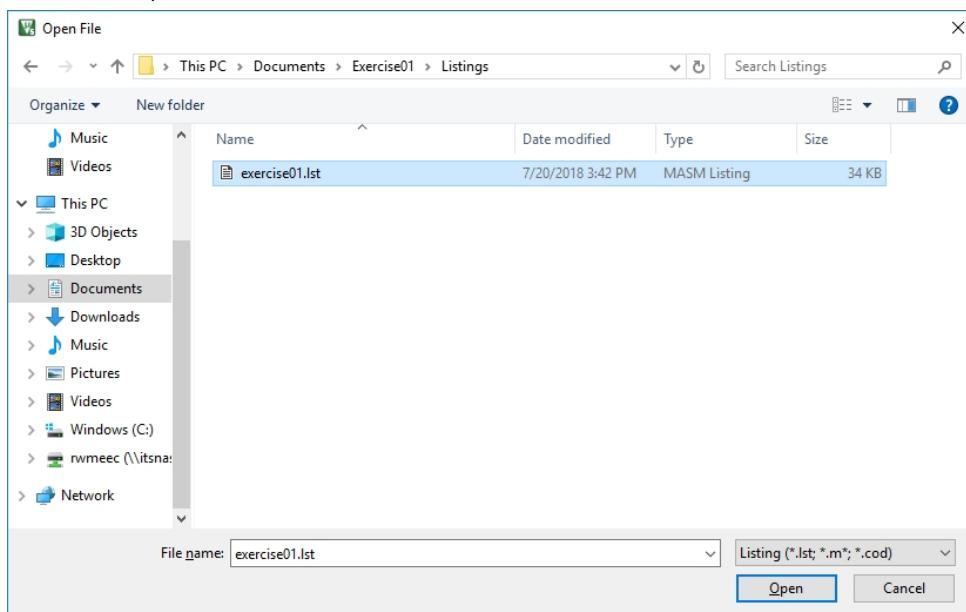

Figure 16. Opening Listing File
- From the µVision IDE main menu, select **File→Open** to launch the Open File window, as shown in Figure 16.